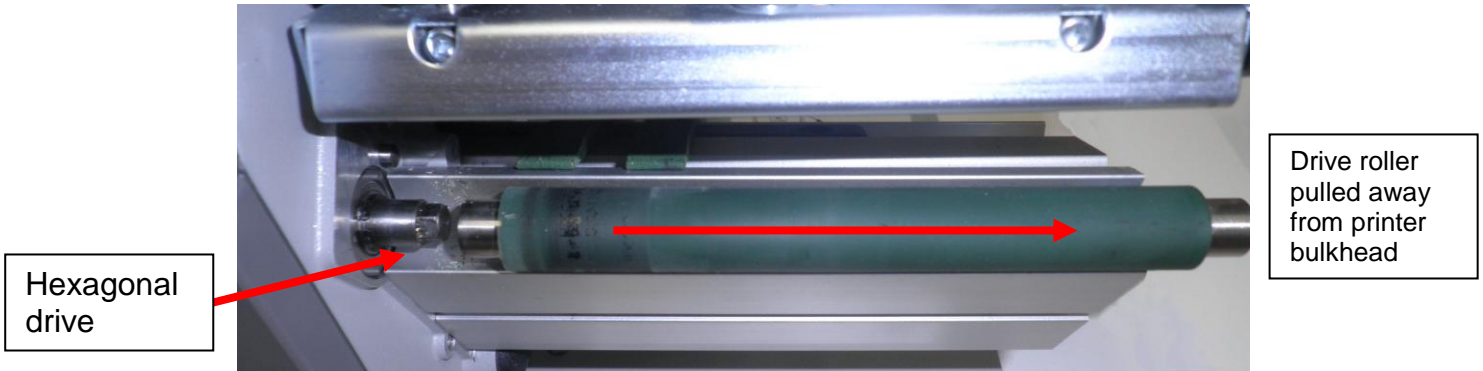

Figure 3 - Drive Roller removal
- 2.3. With the end plate removed the drive roller can be separated from the Hexagonal drive by gently pulling the drive roller laterally away from the printer bulkhead, see Figure 3.
3.3. With the end plates removed the drive rollers can be separated from the Hexagonal drive by gently pulling the drive roller laterally away from the printer bulkhead, see Figure 3.